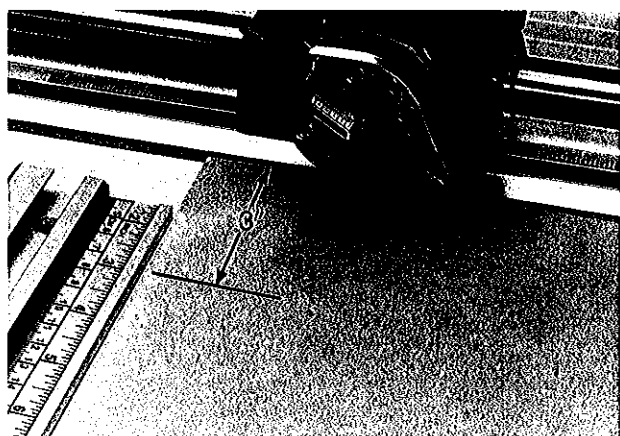

Figure 13.
8. Draw a vertical line 3" from the left edge of a mat. Place the mat's lower edge against the **Squaring Arm** and slide it slowly to the left until it contacts the vertical blade (sizing blade) which should be rotated down and locked in its cutting position. The scale should now be positioned in its slide aligning the pencil mark with the 3" index on the scale. Press down on the right 4" of the scale so it adheres to the **Squaring Arm**. (See Fig. 13). If it should ever be necessary to reposition this scale, it should be easy to pry up the adhered section and relocate the scale.